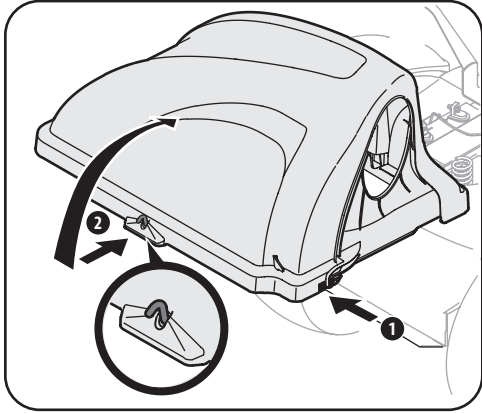

Figure 4-8
7. Open bagger cover by pushing in on the rear, right-side tab with your right hand, as shown in (1) of Figure 4-8, and lifting the cover with your left hand in the center rear of the bagger cover (2).